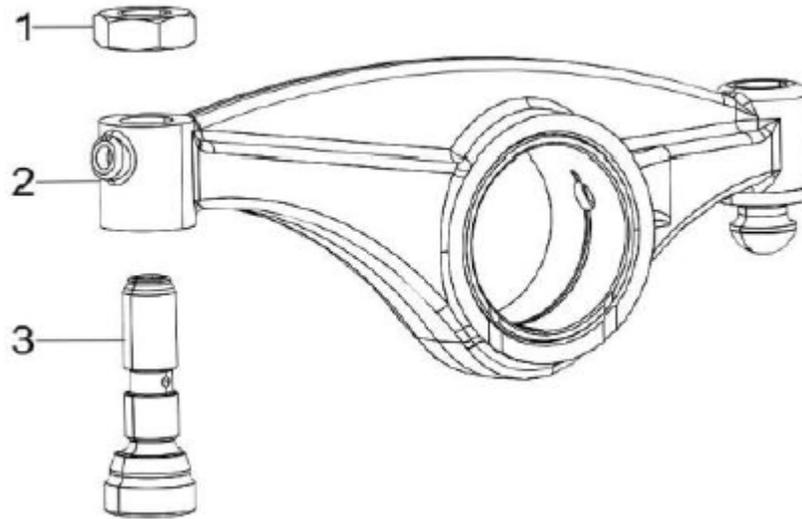

Figure 78. Rocker Arm Assembly
6. If removed, reinstall the valve adjusting screws (Figure 78, 3) and the lock the the nuts (Figure 78, 1).